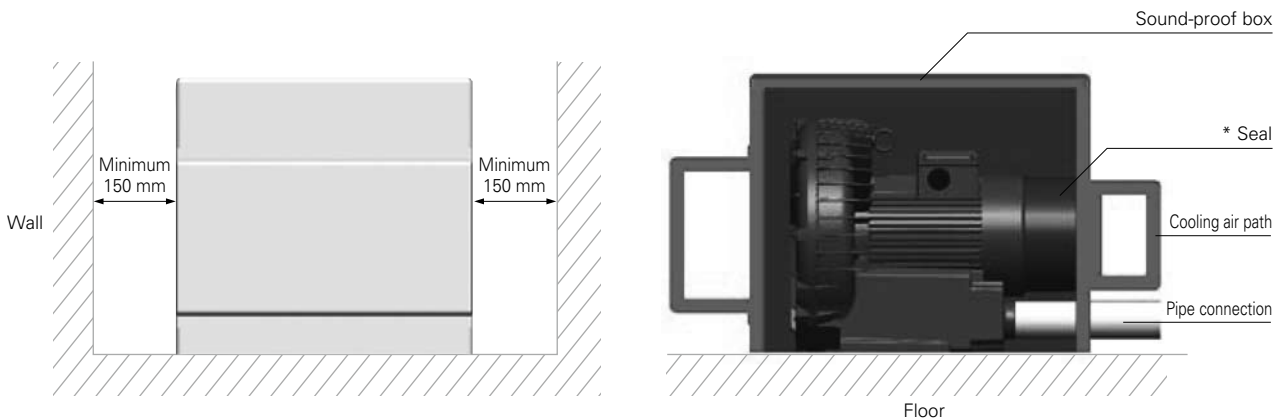

Fig.2 Installation
- (1) Ensure that the motor fan cover is properly sealed onto the cooling air opening location at * in Fig.2.
- (2) Always fit pipe connections to the ring blower intake and outlet to connect through the sound-proof box.
- (3) Ensure that there are no obstructions to cooling air (e.g. walls) within 150mm of the cooling air opening (intake, exhaust) silencer. See Fig.2.
- (4) Ensure that the location at * in Fig.2 does not come off, allowing the sound-proof box to move.
- (5) Fit a pipe silencer as well if necessary.